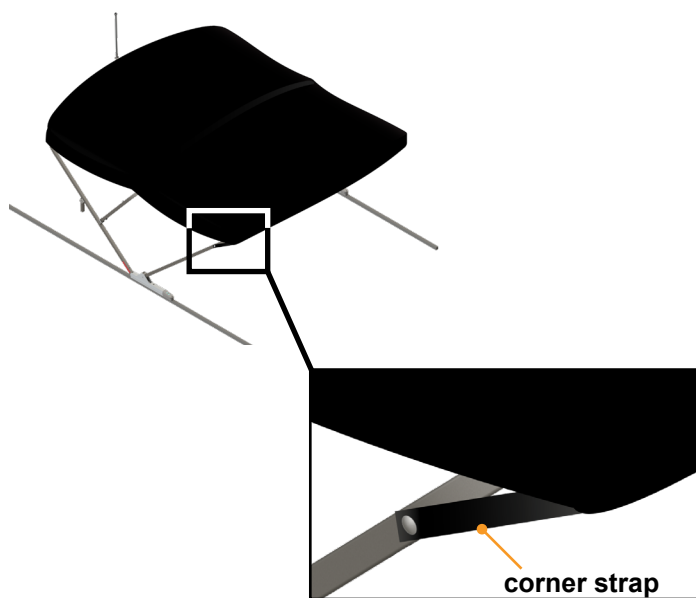

Fig.42
2. Start at one canvas corner and tightly pull and wrap the securing strap around the bimini top strut and snap in-place (**Fig.42**). Repeat procedure as necessary for each securing strap.